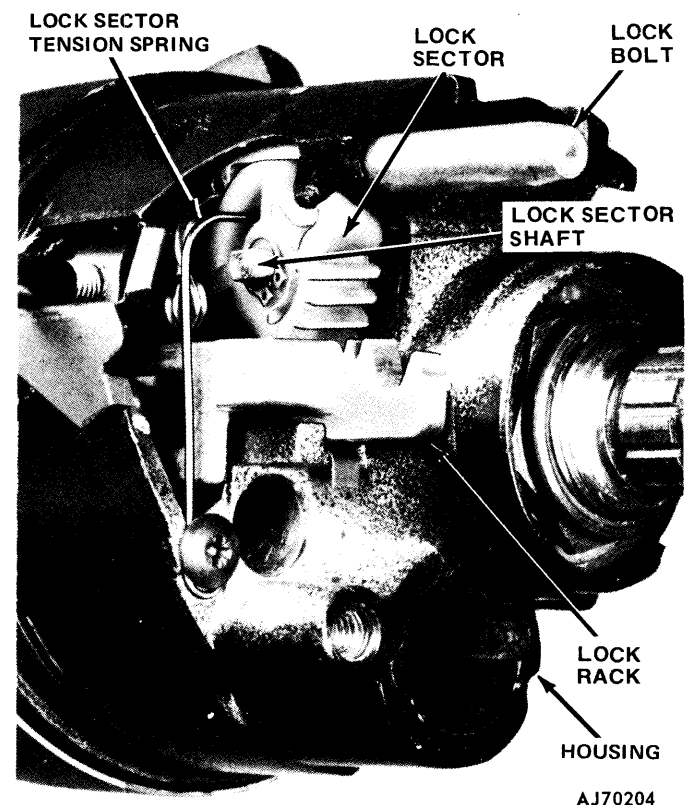

Fig. 11-44 Lock Sector and Tension Spring Position
- (26) Install sector shaft retaining snap ring.
- (27) Hook lock sector tension spring on lockpin. Engage sector and install spring retaining screw (fig. 11-44).
- (28) Place housing in full upward tilt position and install tilt spring and seat.
- (29) Press tilt spring retainer into housing approximately 3/16 inch and rotate retainer approximately 1/8-turn clockwise to secure spring.
- (30) Place housing in center tilt position and remove tilt release handle.
- (31) Install cover on housing and install cover attaching screws.
- (32) Guide shift quadrant light wire upward through housing and downward between shift bowl and column jacket.
- (33) Install shift quadrant mounting bracket and attach light socket.
- (34) Hook base of shift quadrant over tabs on left side of retainer and place in position.
- (35) Install shift quadrant pointer in shift bowl and engage pointer in quadrant.
- (36) Install quadrant retainer clip with flat side of clip facing downward.
- (37) Install tilt release handle.